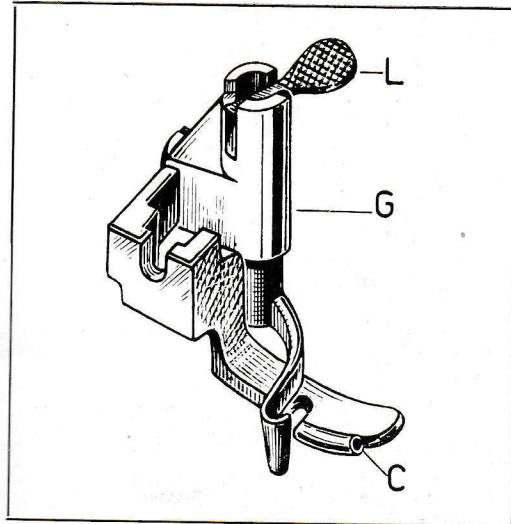
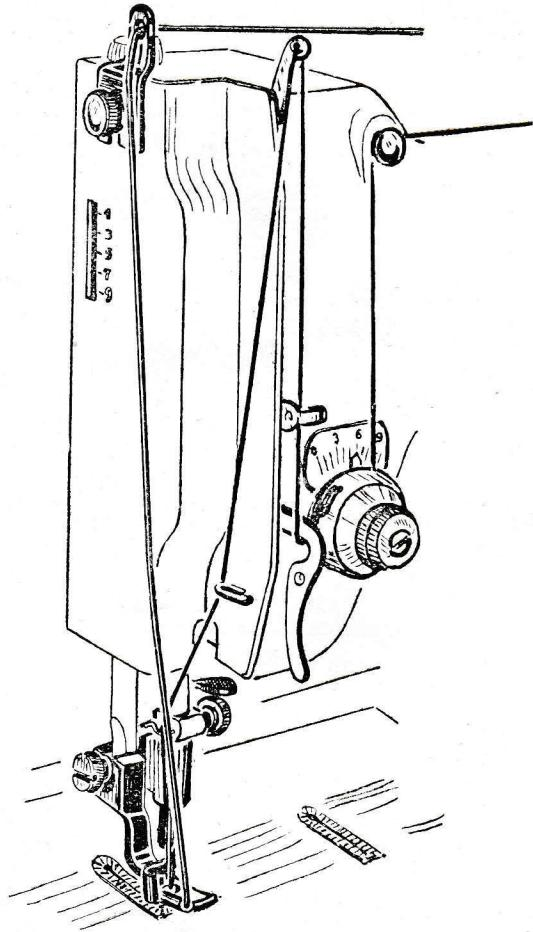

Fig. 29
Fig. 30
These are made with the NECCHI BU machine by using the special device (fig. 29 and following) endowed with:
2) a plate (F) to be placed on the front plate for passing the reinforce thread (see fig. 30),
4) a bobbin case with burnished bolt bearing the letter O (button holes) (fig. 29 a),
5) a conical spring to replace the spring placed on the upper tension (fig. 29 b),
Fig. 29 a
Fig. 29 b
The device is placed on the stuff presser bar as in fig. 30 and it needs to be «opened». That is, in the normal position as in fig. 29, lever L (fig. 29) must be raised so that the interior socket of the guide runs till it lets the lever itself run in the direction of the hands of the watch, so as to displace it against the wall of the upper scale.
To obtain a still better work, it is necessary to displace the stitch regulating lever slightly from nought in order to get a lower carrying of the stuff, but sufficient to make uniform stitches; besides the tension of the bobbin must be very weak and the upper tension rather strong. This can be obtained by: 1) the special bobbin case with a burnished bolt and bearing the letter O (fig. 29 a), which differs from the common one only by having the thread tension spring already set to the purpose, 2) by the stronger conical spring (fig. 29 b) in substitution of that normally fit up on the upper tension.
When the machine and the work to be made are thus fit, put the button hole cut under the foot of the device so that the round head of the end intended for the rounded head turned towards the person who is working, displace lever L from the upper step (fig. 29) in order to let the socket of the guide run in his seat (in the contrary sense to the hands of the watch) until the socket falls in the inferior cut and bring it down on the stuff.
Then start sewing with the minimal width of stitch, after having entered the reinforce thread in the proper channel G (fig. 29).
The said reinforce thread comes from a bobbin placed on the back bobbin bearer and before entering in C it must pass in the thread guiding hole of the small plate F (fig. 30) fixed by a button on the front plate.